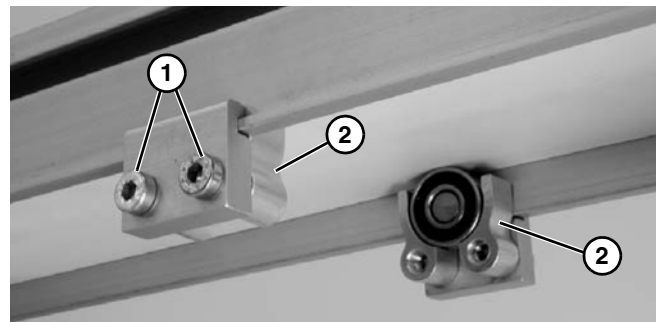

Figure 16
3. Install roller assemblies (**Figure 16, item 1**) as shown. Tighten screws (**Figure 16, item 2**) to 60 in-lb (7 Nm).